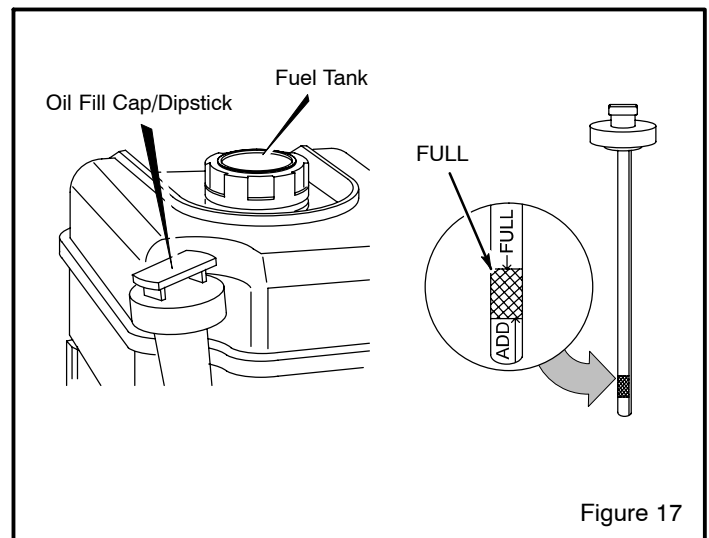

Figure 17
2. Remove the oil fill cap/dipstick and wipe with a clean cloth (see Figure 17).
5. If necessary, add oil until the oil reaches the FULL mark on the oil fill/cap dipstick (see Figure 17). Do not add too much oil.